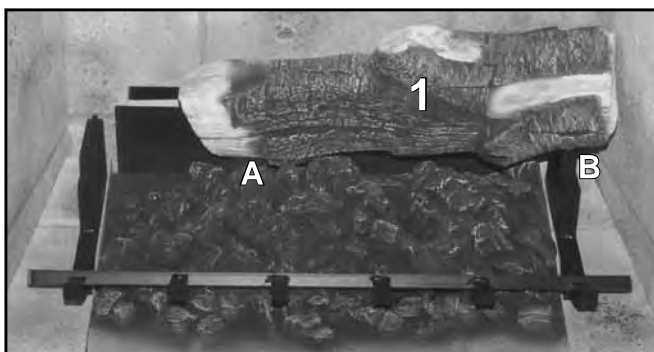

Figure 75: Log 1 in Place.
1. Install Right Rear Log. The right side sits on the grate with the groove on the bottom of the log fitting onto the top of the grate (see Figure 75). Insert the log pin into the top of the ember burner (see A in Figure 75). Align the log front edge with the front section of the grate (see B in Figure 75).